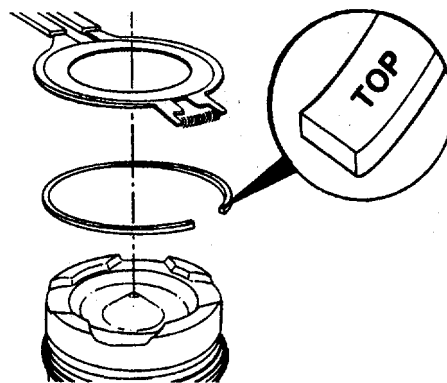

FIGURE 4-35. *Installing Rings*
- (1) Use a piston ring expander to install the piston rings (3, 4, 5, 6) with the part number, mark, or the work "TOP" toward the top of the piston (Figure 4-35).